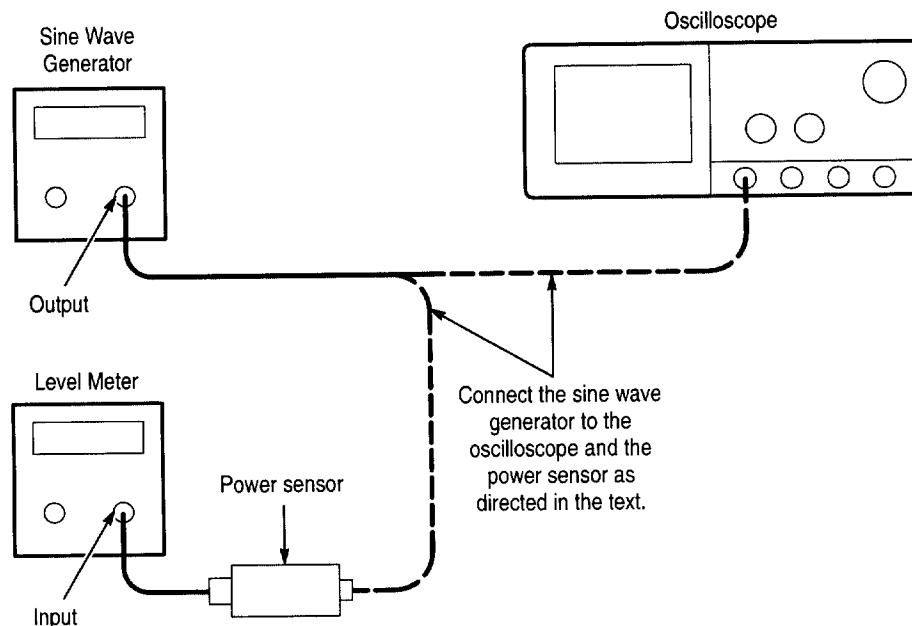

Figure 1–43: Equipment setup for maximum amplitude
1. *Install the test hookup:* Connect the equipment as shown in Figure 1–43 (start with the sine wave generator connected to the oscilloscope).